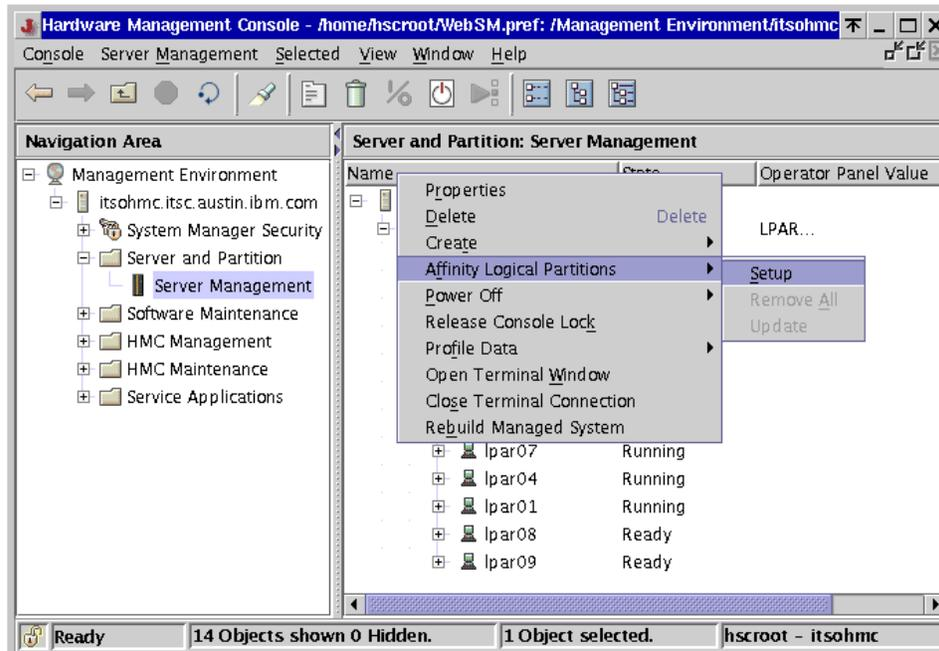

Figure 6-12 Affinity logical partitions setup
- From the Selected menu, select **Affinity Logical Partitions**, and then select **Setup**, as shown in Figure 6-12.